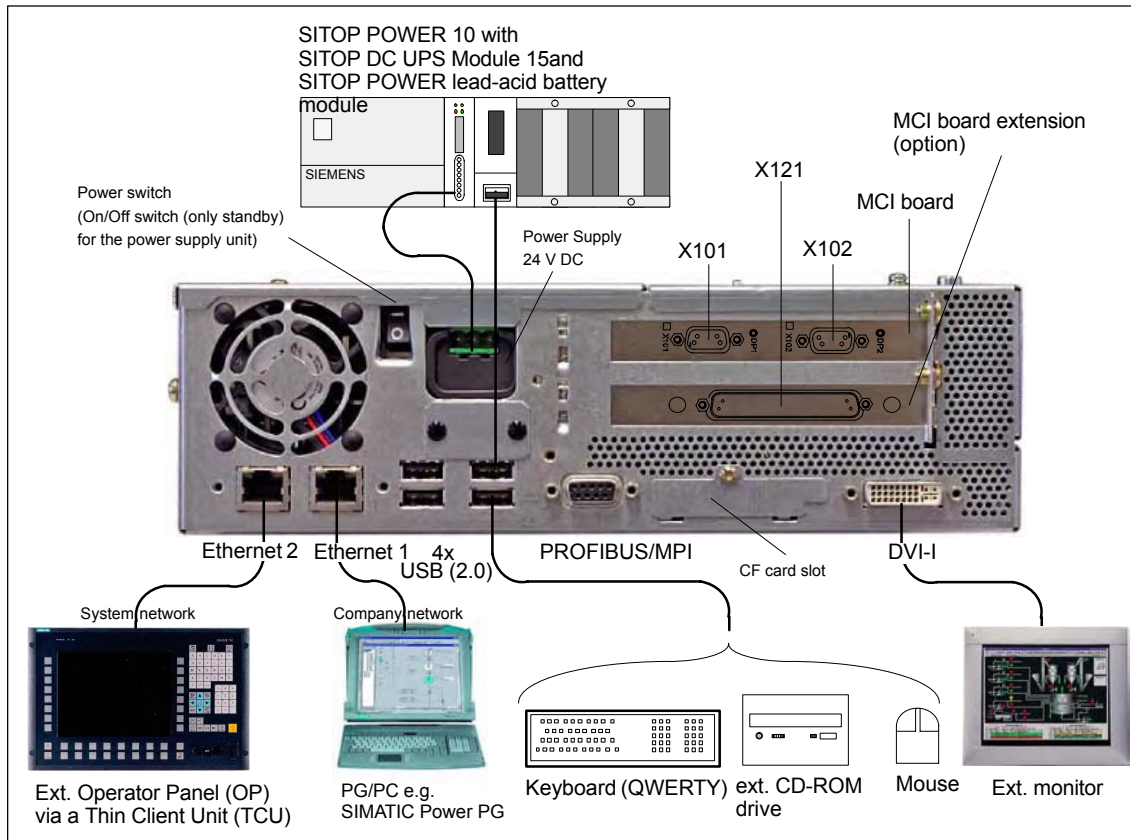
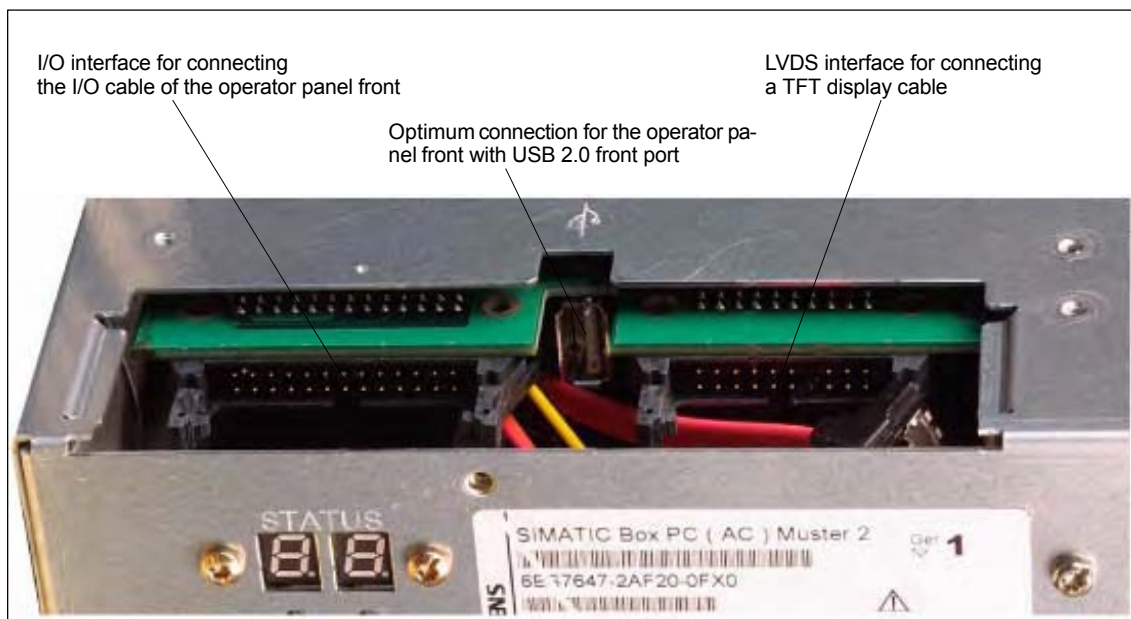

Fig. 3-8 SINUMERIK 840Di sl: PCU 50.3 (right housing)
Fig. 3-9 SINUMERIK 840Di sl: PCU 50.3 (rear housing)
- 5) For an overview of the standard PC interfaces, see Fig. 3-8, Page 3-100 and Fig. 3-9, Page 3-100, as well as: